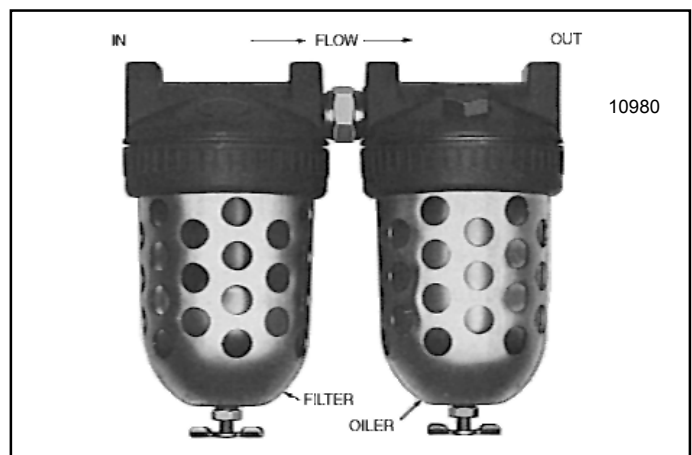

Figure 2-2. Air Filter and Lubricator Unit
- c. A filter and lubricator unit (Figure 2-2) must be installed between air source and hoist, as close to hoist as possible. These keep air flowing to hoist free of dirt and add lubricant to air so internal parts of motor are constantly lubricated. Use a good grade of spindle oil, approximate viscosity 180 ssu at 100° F ., air powered tool oil, or S.A.E. 10W machine oil. Yale•Lift-Tech distributors can provide filter-lubricator units.